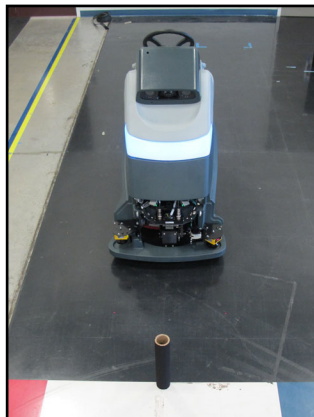
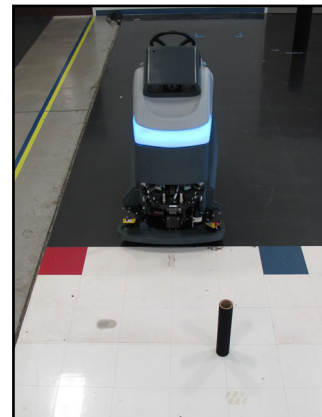

Figure 17: Center
Figure 18: Left
4. Once the machine has stopped, and before it kicks out of playback, move the cylinder so that it is approximately 1 meter (3 feet) ahead of the machine as shown in Figure 17: Center. The machine should resume playback and move toward the target cylinder and then stop before it contacts the target cylinder. (If the machine kicks out of playback, simply press the play button to resume playback). Repeat for the left side as shown in Figure 18: Left.